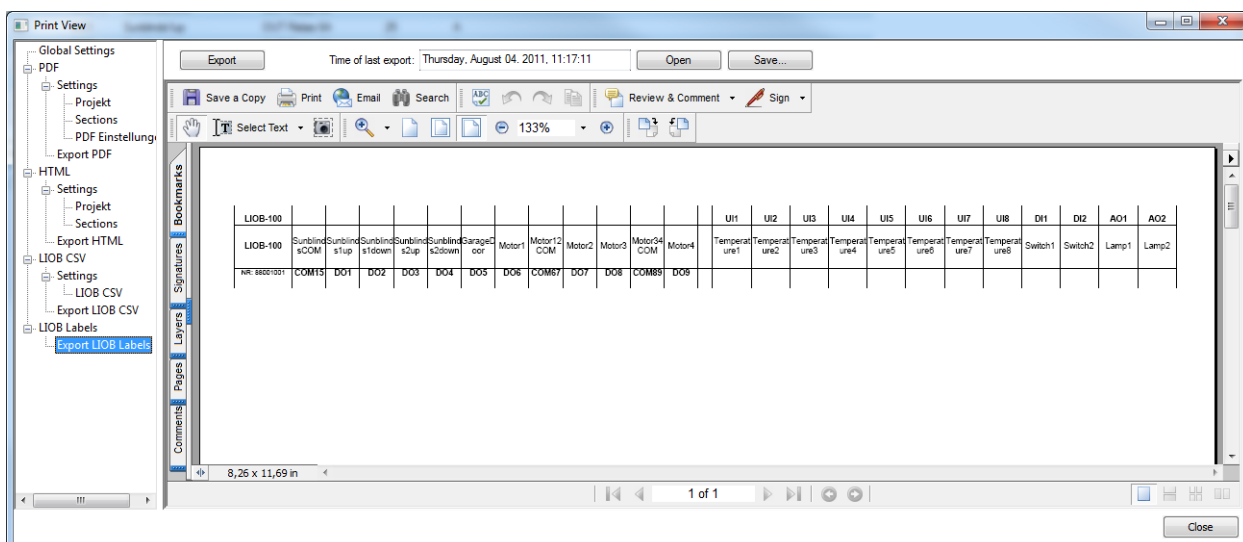

Figure 75: Print View
3. This opens the Print View dialog as shown in Figure 75. Select **Export LIOB Labels** on the left side.